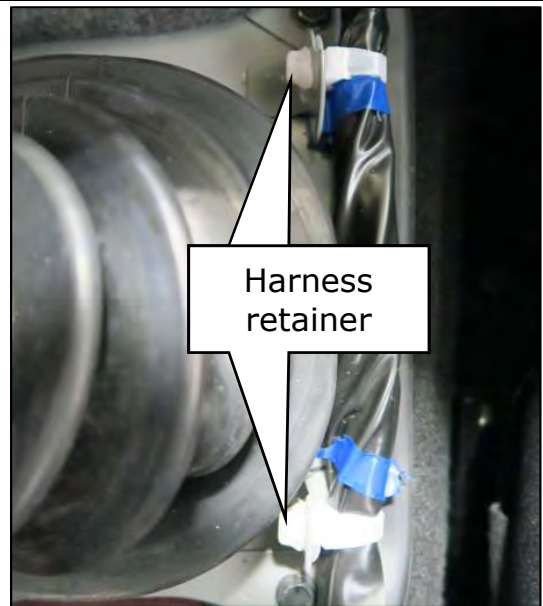

Figure 37
38. Disengage the (2) harness retainers from the hole cover. (Figure 37)